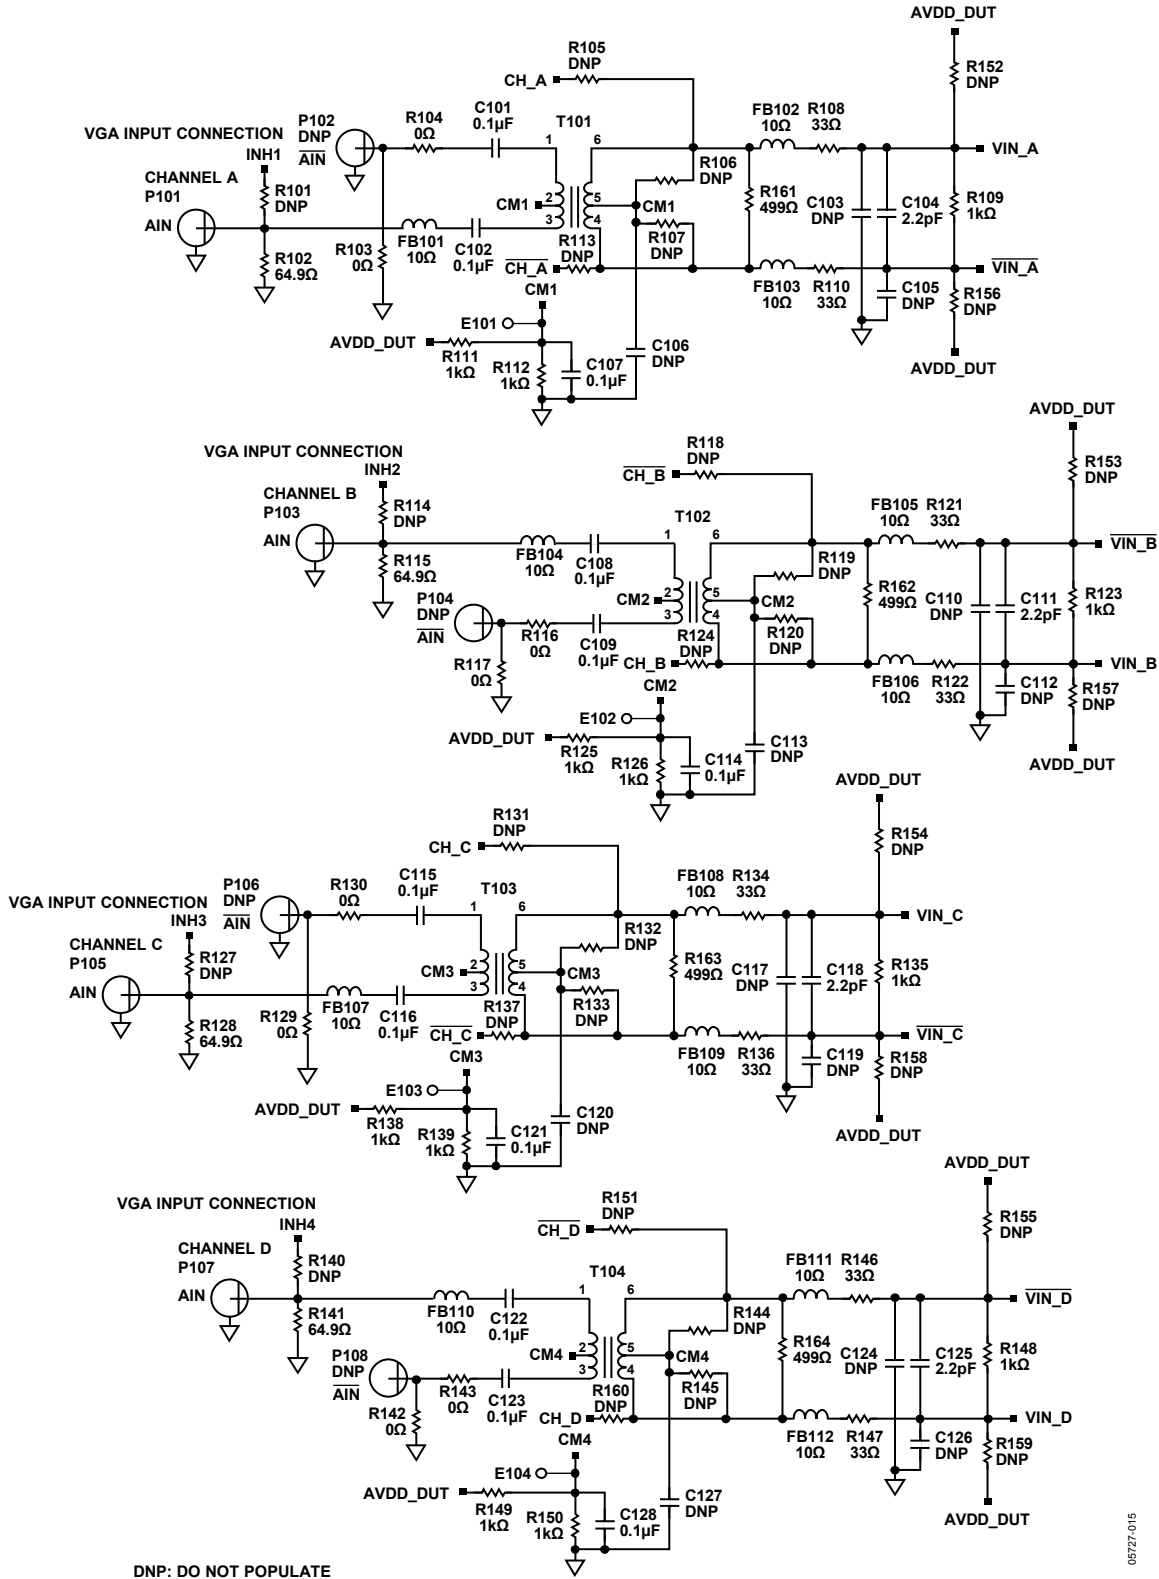

Figure 73. Evaluation Board Schematic, DUT Analog Inputs
- **D + x, D - x:** If an alternative data capture method to the setup shown in Figure 73 is used, optional receiver terminations, R206 to R211, can be installed next to the high speed back-plane connector.